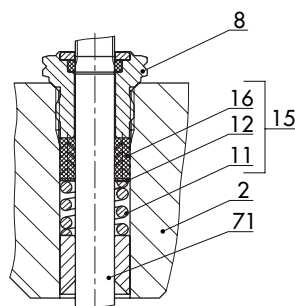

Fig. 9-4: Packing
2. Unthread the stem connector nut (9) and lock nut (10) from the spacer stem (71).
3. Unscrew the threaded bushing (8).
4. Remove nuts (14).
5. Carefully lift the valve bonnet (2) over the spacer stem (71).
9. Carefully place the valve bonnet (2) on the valve body (1) over the spacer stem (71).
10. Fasten the valve bonnet (2) with nuts (14). Observe tightening torques.
12. Carefully slide the packing parts over the spacer stem (71) into the packing chamber using a suitable tool. Observe the proper sequence (see Fig. 9-4).
13. Screw in the threaded bushing (8) and tighten it. Observe tightening torques.
14. Place yoke (3) on the valve bonnet (2) and fasten using the castellated nut (92).
15. Loosely screw the lock nut (10) and stem connector nut (9) onto the spacer stem (71).